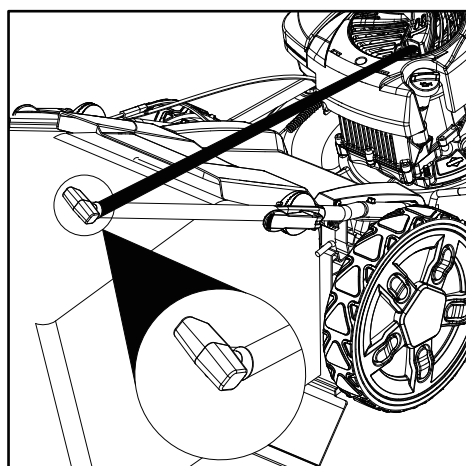

Fig. 12
3. Always rest the recoil starter handle (31) onto the hook (25) located on the right-hand side of the upper handle bar (2) (Fig. 12) when the recoil starter is not operated.